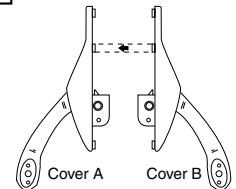

Figure 15
2. Using screwdriver, pry nylon button from inside of inactive case cover (Cover B) and replace it in hole in back of active case cover (Cover A). (Figure 15)